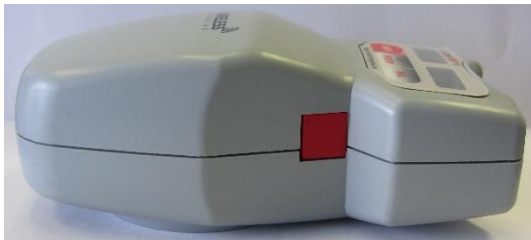

Figure 3: Inclinometer Cycle Switch
- Muscle Testing Mode (MT)
- Inclinometer Cycle Switch: Red button located on side of device. In inclinometer test mode, this button is used to capture and cycle through to capture angle readings, (see Figure 3).